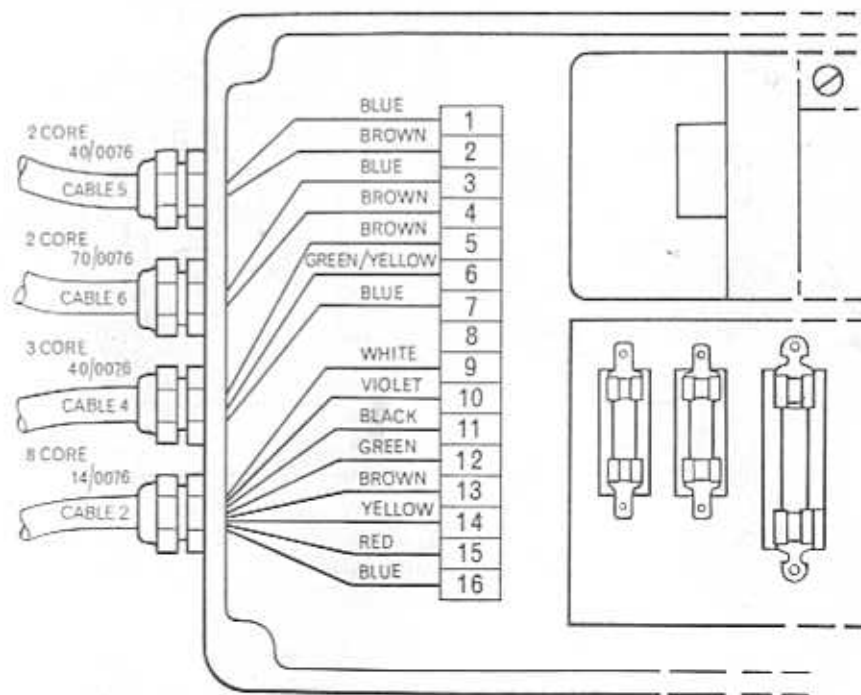
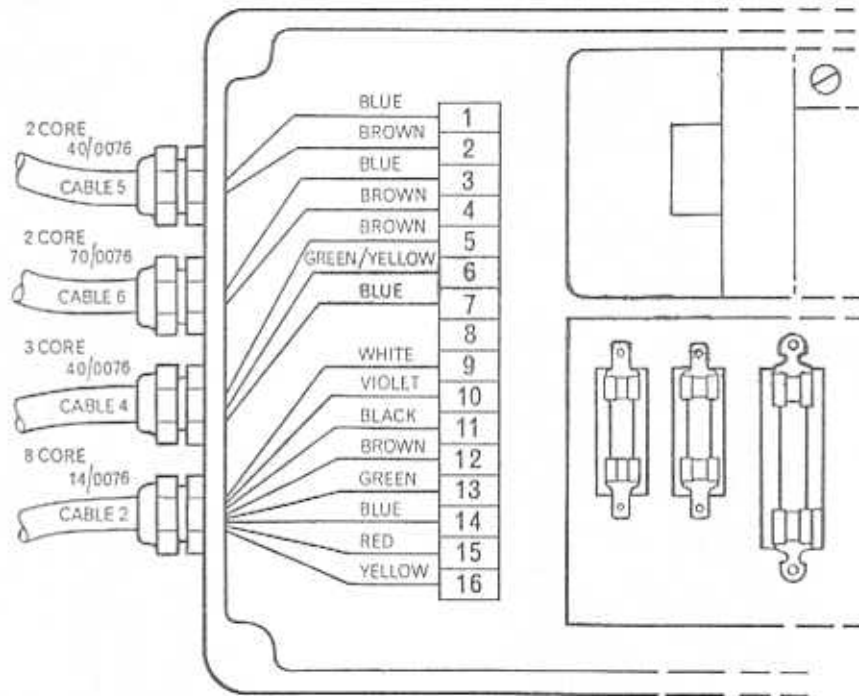

FIG. 8
FIG.9
- 2.6 **DRIVE UNIT.** This must be sited so that connection by roller chain to some rotary part of the steering gear is possible, with sufficient clearance around the steering gear shaft for the sprocket to be fitted. It can be orientated so that its output shaft is facing either forward or aft. Before placing the unit in position the gearbox should be filled with the lubricating oil (Castrol 'MAGNA') provided, by unscrewing the small plug on the end of the gearbox, and removing the filling plug fitted to the gearbox. Fill the gearbox until oil flows from the oil level plug, replace plugs. As supplied from the factory, the output shaft, viewed from its exposed end, rotates anticlockwise when applying starboard rudder. If reverse rotation of the output shaft is required the wiring connections should be as shown in Fig. 9. It should be noted that some parts of the steering gear shafting may rotate in a direction contrary to that of the ships wheel.
Figure 8 shows the order in which the lead-outs should be entered into the 16-way terminal block for standard rotation, Figure 9 for reverse rotation. If, however, a Rudder Feedback unit is to be fitted, connections should be as in Figure 8 for both Standard and Reverse rotation.
3.6 **REVERSE ROTATION OF DRIVE UNIT.** In some installations it may be necessary for the Drive Unit output shaft to rotate in the reverse direction. No. 2 Cable from the Control Unit to the Drive Unit is then connected in accordance with Figure 9. This alteration may necessitate the resetting of the limit switches. These are located under the cylindrical cover adjacent to the earth stud of the Drive Unit.
3. Remove the Violet, green, brown, yellow, red and blue leads colour for colour, into the terminals 10, 12, 13, 14, 15, and 16 on the gland side of the terminal block (see Fig. 8) but do not disturb the glands.